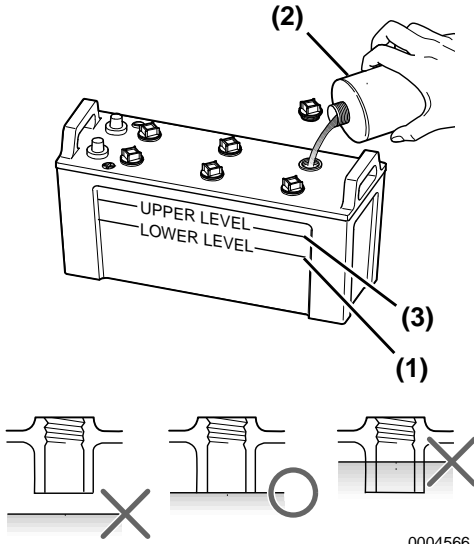

Figure 7
- If the electrolyte level is lower than the minimum fill level (**Figure 7, (1)**), fill with distilled water (**Figure 7, (2)**) (available locally) up to the upper limit (**Figure 7, (3)**) of the battery.